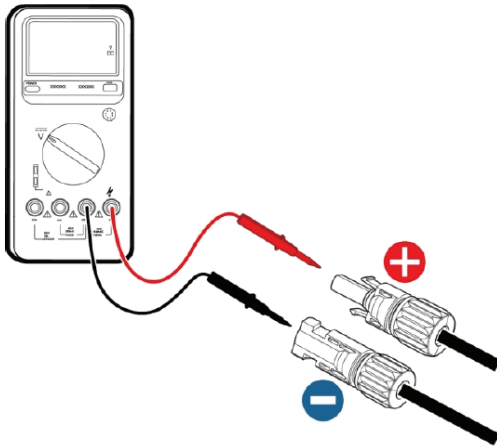

Figure 18 DC input voltage measuring
(3) After the DC connector is connected, use a multimeter to measure the voltage of the DC input string, verify the polarity of the DC input cable, and ensure that the voltage of each string is within the allowable range of the inverter, as shown in Figure 18.